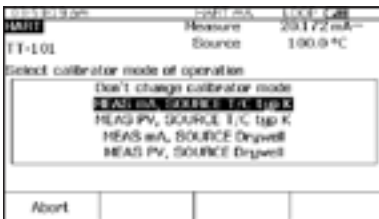

Figure 20.
2. Press the **HART** key again and you are prompted to select the 754 configuration (Figure 20). Move the cursor to **MEAS mA, SOURCE T/C typ K** (or measure mA if source configuration is not offered), and press **ENTER**. (If you were verifying the digital PV instead of the mA output, i.e., the transmitter has a non-zero HART poll address, you would select **MEAS PV, SOURCE T/C typ K** (or measure PV if source configuration is not offered) instead.)